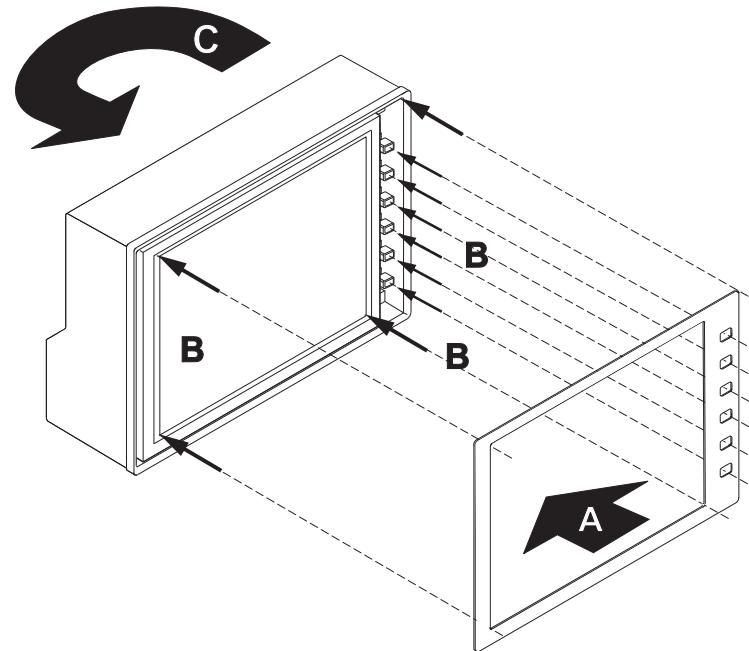

Fig. E 7-8: Placing and fastening the new scale
7. Then take the new self-adhesive scale (spare part no. 167203) and remove its protective film from the rear side (A). The six small square holes of the scale must be placed exactly atop the six pushbuttons before fastening the scale (B). Carefully press the scale to the display. Avoid damage of the display or the pushbuttons! Then rotate the unit horizontally back to its previous direction (C). (Fig. E 7-8)